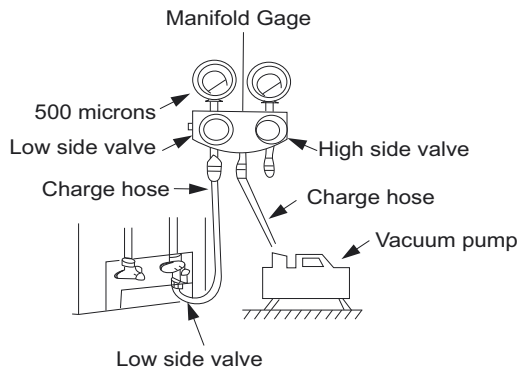

Fig. 37 — Manifold Gauge
3. Fully open the low side of manifold gage (see Fig. 37).